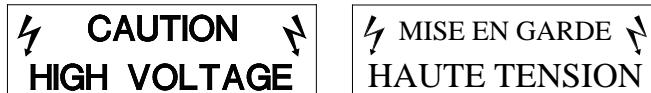

Figure 1-3
- Figure 1-3 pertains to the electrical safety of the Chamber. It is necessary because of the high voltage present (approximately 180 Volts DC) on the PC board installed in the chamber. A screwdriver is necessary to remove the cover.